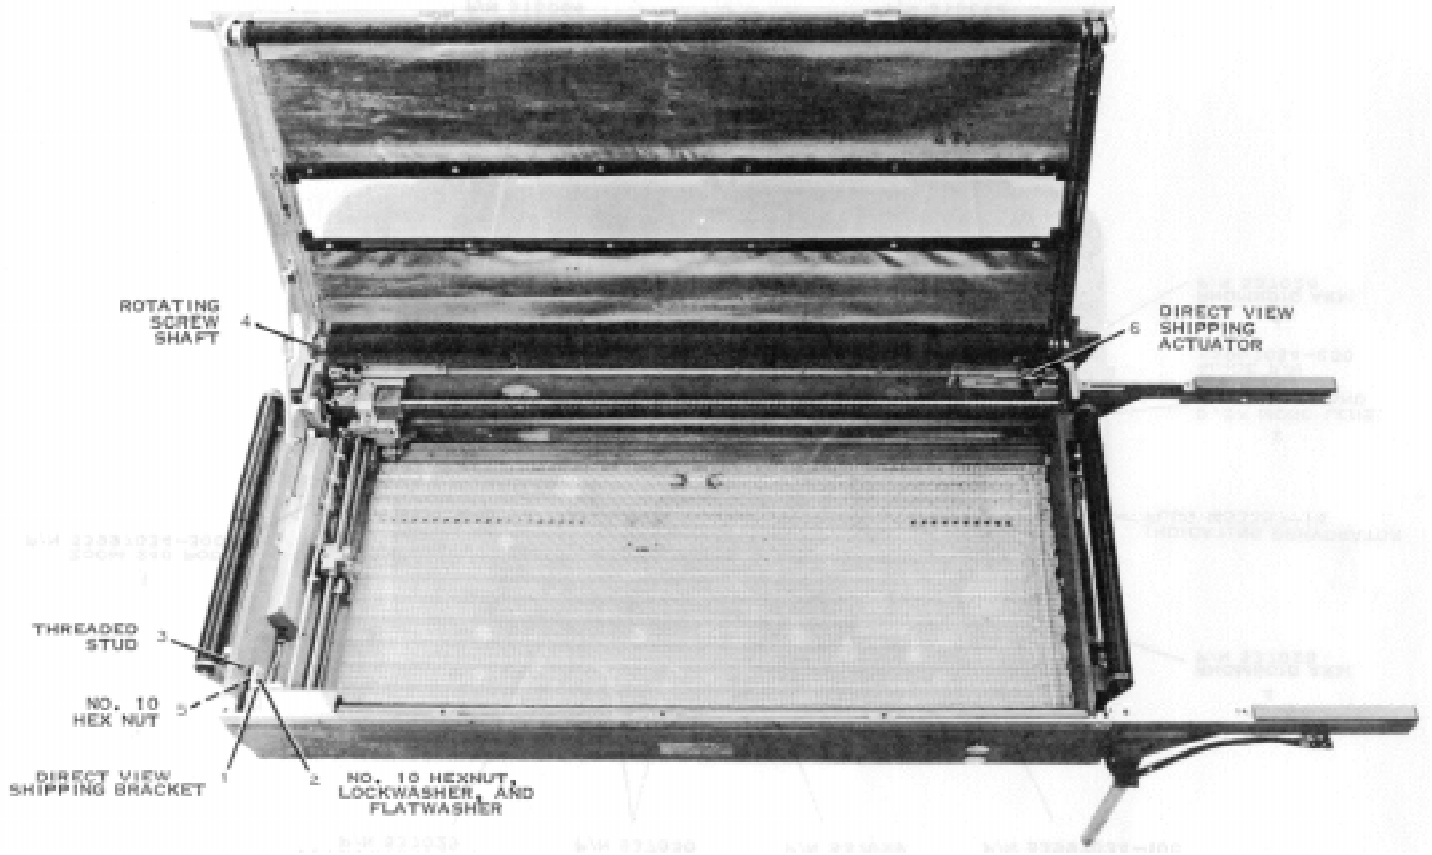

Figure 2-2. Direct View With shipping Braces Installed
- c. Bracket, shipping, direct view (I, figure 2-1 and I, figure 2-2).
- l. Release direct-view shipping bracket (11, figure 2-1) and (1, figure 2-2), part number 917903-1, as follows:
4. Remove no. 10 hex nut, lockwasher, and flat washer (2, figure 2-2) securing bracket to left side of direct-view casting and remount them in reverse order on threaded stud (3, figure 2-2) immediately above bracket.
5. Move direct-view cursor to right by rotating screw shaft (4, figure 2-2) at rear until bracket clears stud.
6. Remove no. 10 hex nut (5, figure 2-2) used to back up bracket and mount securely to stud immediately above bracket.
- m. Remove direct-view shipping actuator (12, figure 2-1) and (6, figure 2-2), part number 917904-1, as follows:
- 2. Position shipping actuator (6, figure 2-2) on two threaded studs, making sure interlock switch is actuated. Secure shipping actuator using two no. 6 hex-head nuts.
- g. Secure direct-view shipping bracket (11, figure 2-1) and (1, figure 2-2), part number 917903-1, as follows:
- 1. Remove no. 10 hex nut from threaded stud (3, figure 2-2) and install on lower threaded stud (5, figure 2-2).
2. Move direct-view cursor to left by rotating screw shaft (4, figure 2-2) until bracket is positioned on threaded stud.
3. Remove no. 10 hex nut, lockwasher, and flat washer from threaded stud (3, figure 2-2).